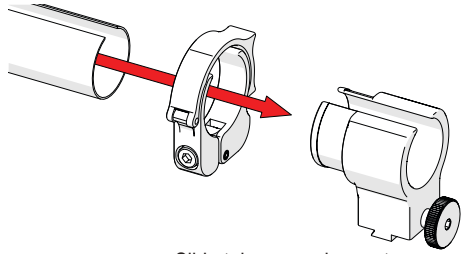

Fig. 99 - Slide tube around mount
2. Slide the clamp around the tube first and then slide the tube around the outside of the cable management dovetail mount (Fig. 99). Align the zipper opening and the cable management dovetail mount opening.